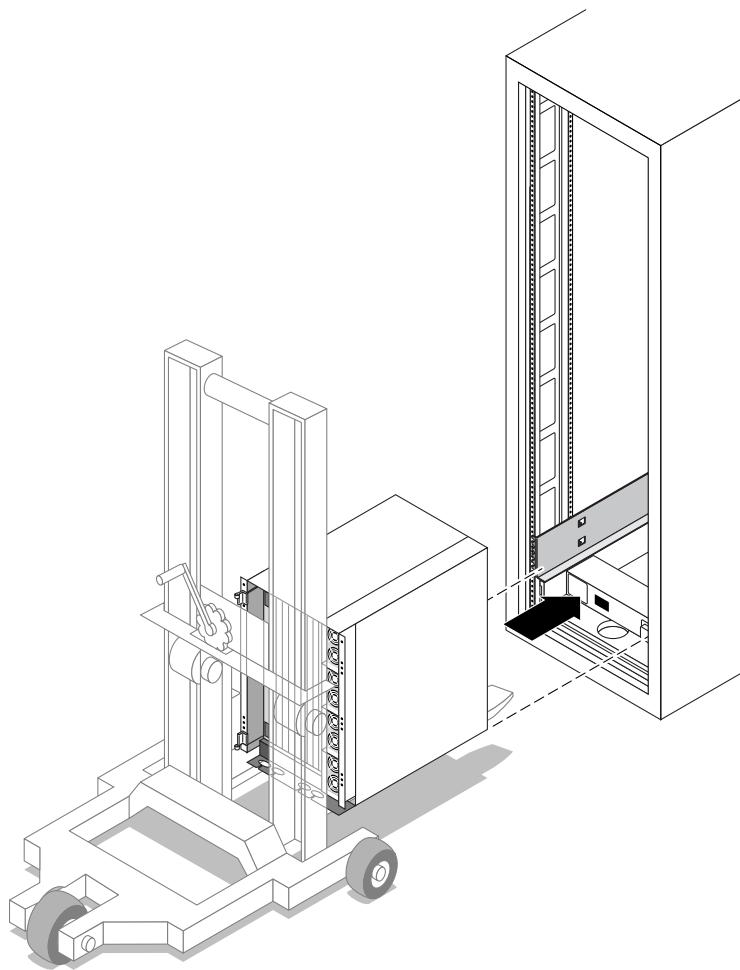

FIGURE 4-11 Aligning the Director With the Cabinet
4. **Use the hand truck to position the director on the mounting rail ledges. See FIGURE 4-11.**